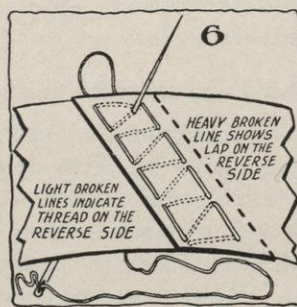

FIG. 6.
- c. Sew the lap of the headsize band with a row of $\frac{1}{2}$ -inch back stitches (see Figure 6).